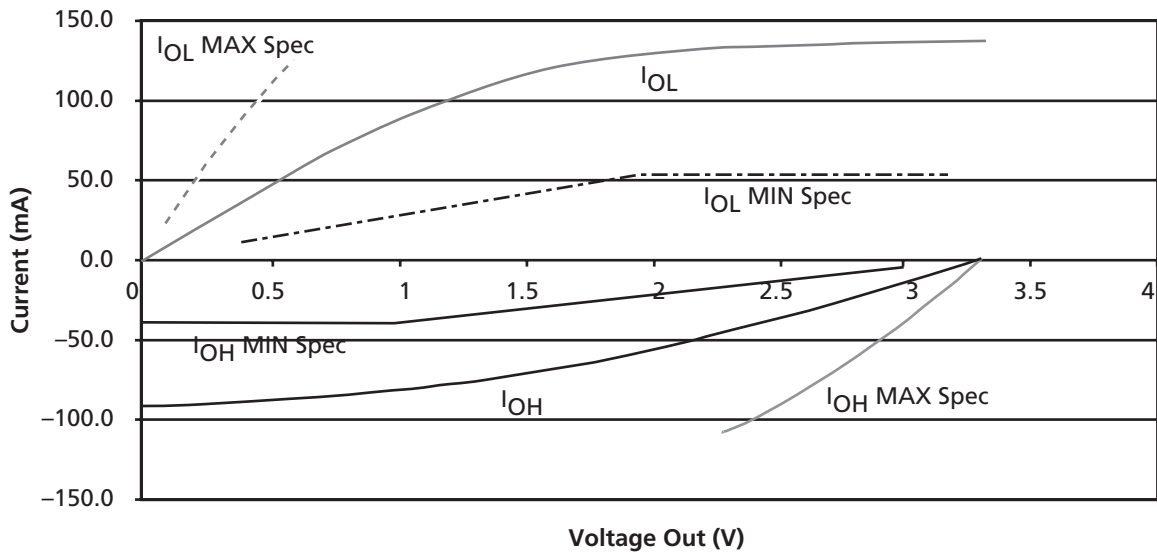

Figure 1-12 • 3.3V PCI V/I Curve for Automotive-Grade SX-A Devices
1. Refer to the *VII* curves in Figure 1-12 on page 1-16. Switching current characteristics for REQ# and GNT# are permitted to be one half of that specified here; i.e., half size output drivers may be used on these signals. This specification does not apply to CLK and RST#, which are system outputs. "Switching Current High" specifications are not relevant to SERR#, INTA#, INTB#, INTC#, and INTD#, which are open drain outputs.
2. Maximum current requirements must be met as drivers pull beyond the last step voltage. Equations defining these maximums (C and D) are provided with the respective diagrams in Figure 1-12 on page 1-16. The equation defined maximum should be met by design. In order to facilitate component testing, a maximum current test point is defined for each side of the output driver.
Figure 1-12 shows the 3.3V PCI V/I curve and the minimum and maximum PCI drive characteristics of the automotive-grade SX-A devices.